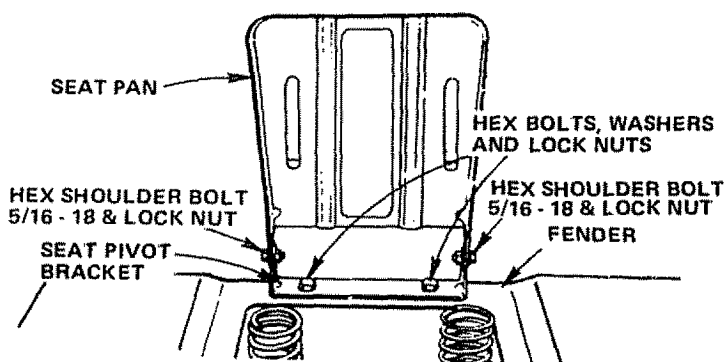

FIGURE 2
1. Mount Seat Pivot Bracket to Fender using two Hex Bolts 3/8 - 16 x 3/4, two Washers 13/32 x 3/4 x 10 Ga, and two Crownlock Nuts 3/8 - 16 (Fig. 2). NOTE: WASHERS SHOULD BE POSITIONED UNDER FENDER NEXT TO NUTS. Seat Pivot Bracket, Bolts, Washers and Nuts found in Bag of Parts. Tighten Nuts securely.
2. Mount Seat Pan to Seat Pivot Bracket using two Shoulder Bolts 5/16 - 18 and two Lock Nuts 5/16 - 18 (Fig. 2) (head of Bolts to outside). Bolts and Lock Nuts found in Bag of Parts. Tighten Nuts securely.